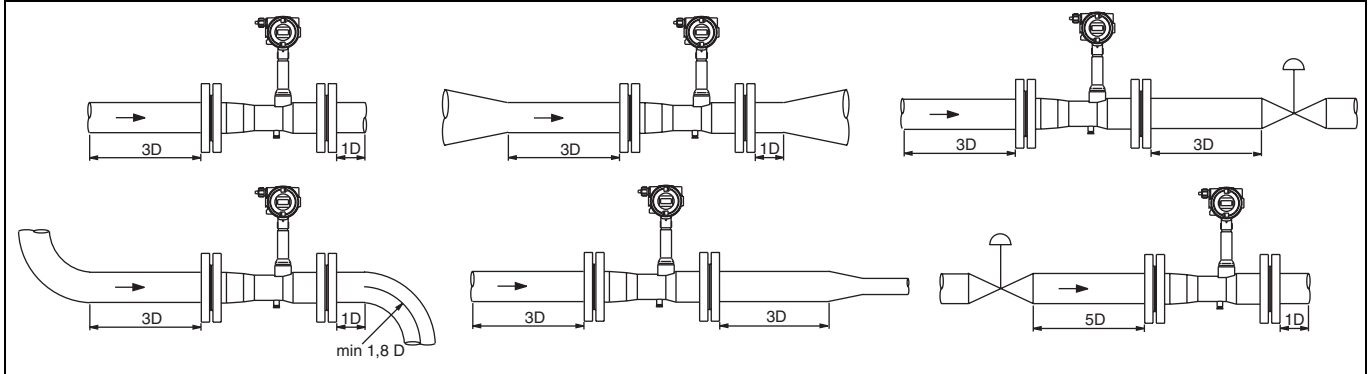

Fig. 4: Recommended In- and Outlet Straight Sections
- the recommended in- and outlet straight sections are provided (Fig. 4 ).
The measurement principle of the Swirl Flowmeter requires only minimal in- and outlet lengths of straight pipe. Fig. 4 shows the recommended lengths for the in- and outlet straight sections for various installation conditions. No in- or outlet straight sections are required when single or double elbows are installed up- or downstream from the flowmeter primary whose radius is greater than  $1.8 \times D$ . No additional in- or outlet straight sections are required downstream from reducers per DIN 28545 ( $\alpha/2 = 8^\circ$ ).